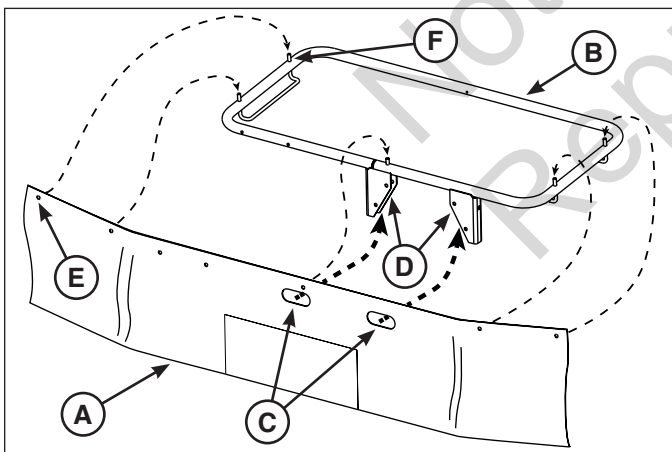

Figure 5
1. With the dust skirt (A, Figure 5) aligned with the catcher frame (B) as shown, slip the large holes (C) in the skirt up and over the frame brackets (D).
2. Wrap the front and sides of the dust skirt around and over the front and sides of the catcher frame, slipping the five hanger holes (E) over the frame pegs (F).